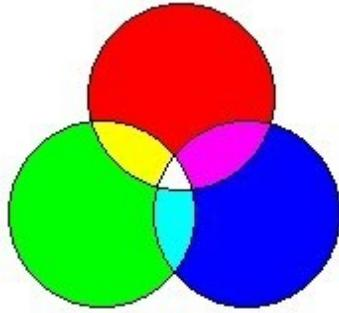

Figure 12-6: Making New Light Colors by Mixing the 3 Primary Light Colors
color we get. In many high-end graphics systems, an 8-bit value is used to represent the intensity. Its value can be between 0 and 255 (0 to 0xFF) representing high intensity (255) and zero intensity. See Table 12-2. Using three primary colors and intensity, we can make many colors we want. See Figure 12-6.